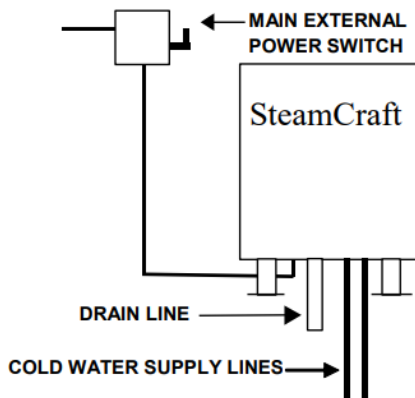

Figure 3-8
3. A main disconnect switch and a separate fuse or breaker should be installed near the unit as shown in Figure 3-8. Throughout the remainder of this manual the fused disconnect switch is referred to as the main external power switch.